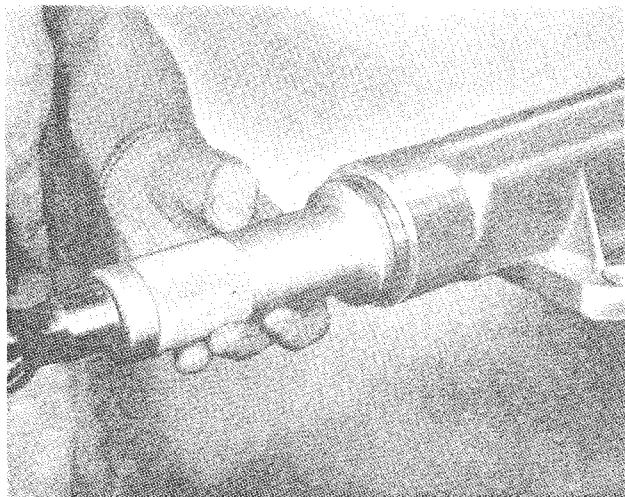

**Fig. 25** Fitting Extension Ball Bearing and Thrust Washer with Churchill Tool No. 20S. 87.
- (q) Install thrust washer and ball race into gearbox extension with suitable tool as shown in Fig. 25.